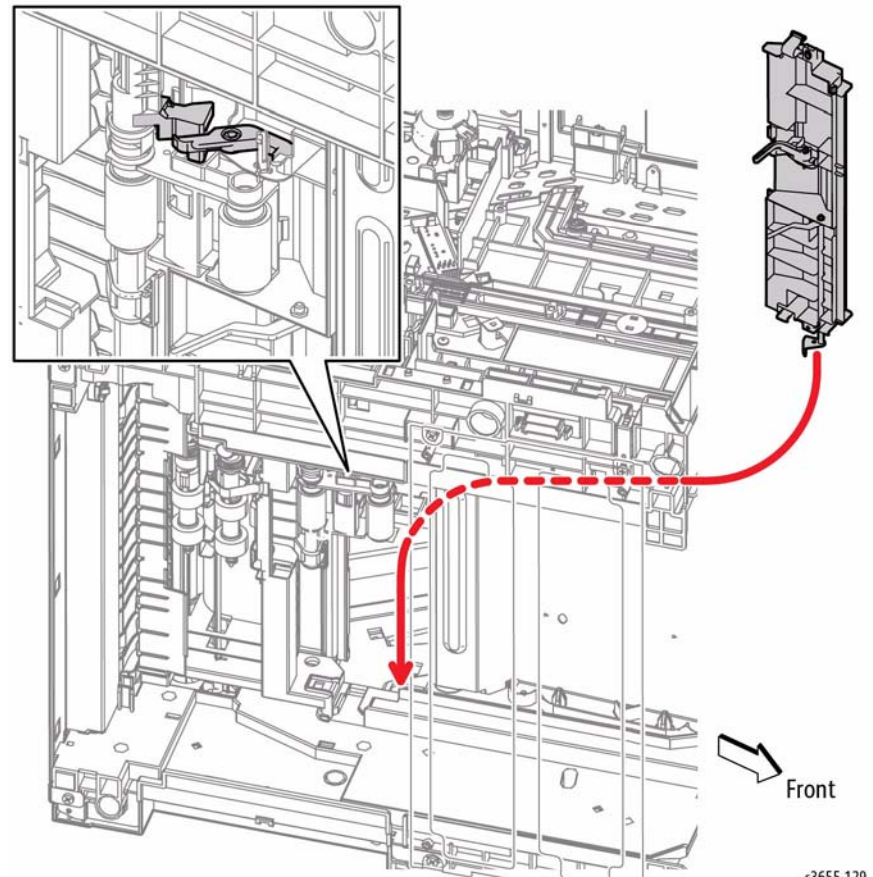

Figure 11 Install the Top Frame Assembly
6. Refer to Figure 11 when installing the Top Frame Assembly. Check the No Paper Sensor Actuator passes through the hole in the chassis.